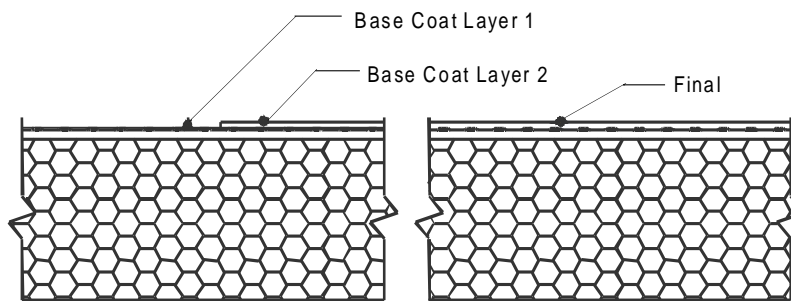

Figure 9
- 9.5.1.2.(3) Allow the base coat mixture to take up until firm to the touch. Trowel a second tight coat of the base coat mixture over the first coat to **fully cover** the reinforcing mesh – Figure 9. The result should be such that the reinforcing mesh is approximately centered within the base coat thickness. Do not allow the first pass to completely dry prior to the second pass application or an excessive amount of base coat mixture will be necessary to fully coat the wall surface.